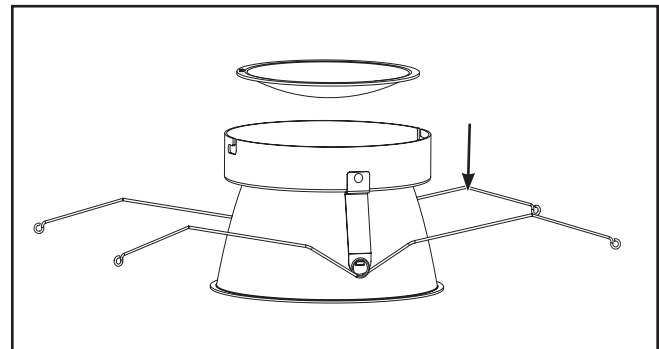

Figure 5.
2. Insert lens into lower trim with concave part facing down (Figure 5.).